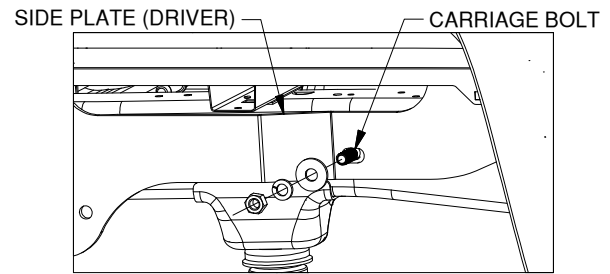

Figure D1: View looking into driver side wheel well.
1. **Place side plates over carriage bolts.** Each side plate (driver and passenger side) will install over the carriage bolts previously placed into the frame. Attach each plate (driver side shown below) with 1/2" washers, 1/2" lock washers and 1/2" finish nuts, see Figure D1. Do not fully tighten at this time.